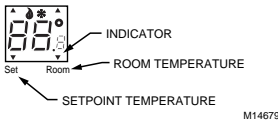

**Fig. 12. Digital display and system switches (FAN and SYSTEM).**
Fan and system settings are controlled manually by using the switches located at the bottom of the thermostat case. See Fig. 12.
1. Select Heat or Cool by sliding the SYSTEM switch in the lower right corner of the thermostat to the desired mode. See Fig. 12.